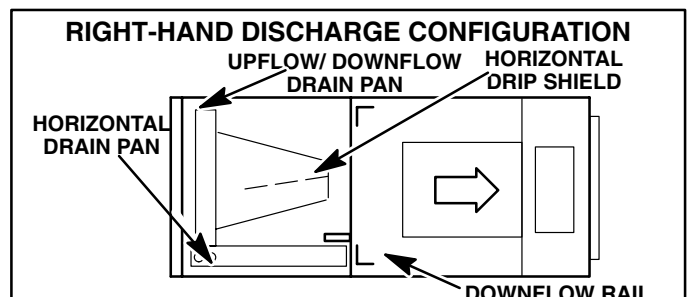

FIGURE 18
- 3- No further adjustment is necessary. Set unit so it is sloped towards the drain pan (1/4" [6mm]). See figure 18.